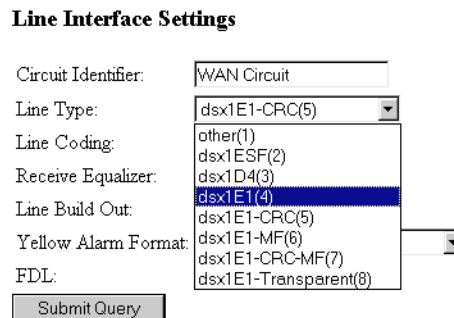

Figure 40. Line Type pull-down menu
1. From the *Line Type* pull-down menu (see figure 40) select *dsx1E1(4)* or *dsx1E1-CRC(5)*.